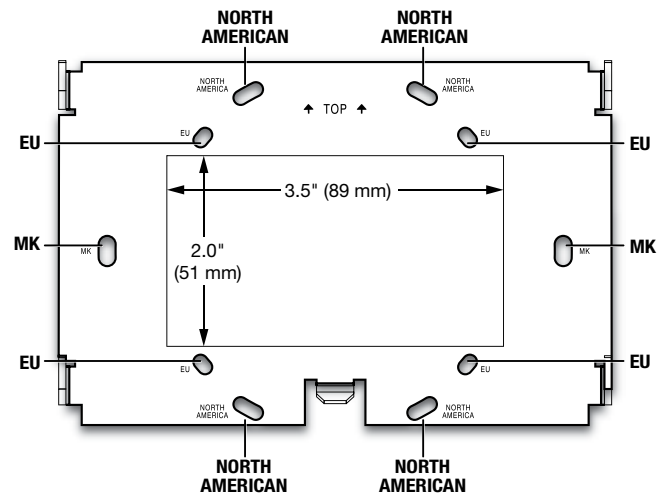

Figure 2. Touchpanel Mounting Plate
2. Fasten the mounting plate to the wall box (❷) with the provided screws. Use mounting holes that are appropriate to the junction box you are using (see figure 2 on page 2).
1. Place the mounting plate (see figure 2) against the wall or furniture in a suitable location and ensure that it is level. Use the mounting plate as a template to mark the wall.
3. Use the MK slots and drill the two pilot holes (figure 2). Extron recommends using two Molly bolts or SnapToggle bolts.